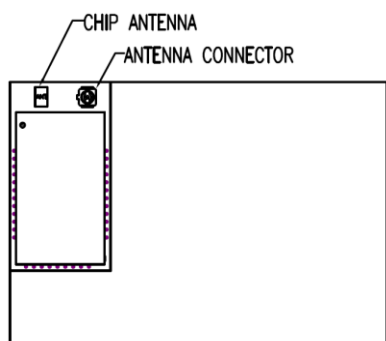

Figure 6-1: BT740-SA placement in the corner of host PCB.
- For best antenna performance, place the BT740-SA module on the edge of the host PCB, preferably in the corner with the antenna facing the corner. An example shown in Figure 6-1.
2. For BT740-SA (with on-board chip antenna) best antenna performance, the module BT740-SA **must** be placed on the edge of the host PCB, preferably in the **corner** with the antenna facing the corner (see Figure 6-1). The module is placed in the **corner** of host PCB above the keep-out area. If the BT740-SA is placed on the edge instead, the keep-out area must be modified (see Figure 6-2 in section 6.3.1).